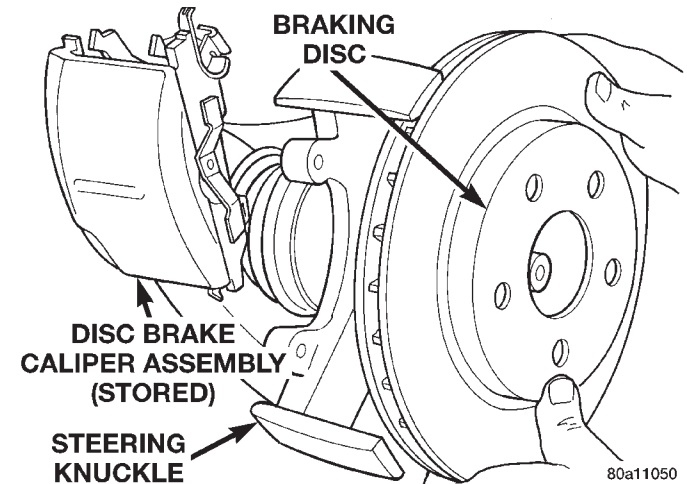

Fig. 50 Removing / Installing Brake Rotor
(7) Remove the brake rotor from the front hub (Fig. 50).
- (1) Completely retract caliper piston back into piston bore of caliper assembly. This is required for caliper installation with new brake shoe assemblies.
- (2) Lubricate both steering knuckle abutments with a liberal amount of Mopar® Multipurpose Lubricant, or equivalent.
- (3) Install the front rotor on the hub, making sure it is squarely seated on face of hub (Fig. 50).
- (4) Remove the protective paper from the noise suppression gasket on both the inner and outer brake shoe assemblies (if equipped).